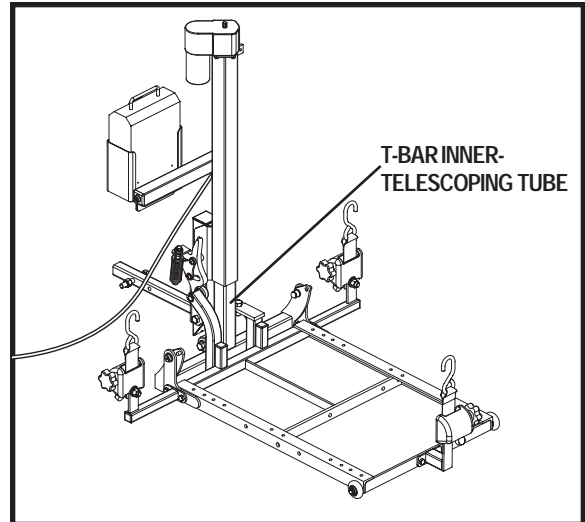

Figure 13. Lift Frame Maintenance
- Lower the platform to the ground, clean away any remnants of old grease from the T-bar inner-telescoping tube, and apply a new coat of all-weather lithium grease to the inner-telescoping tube. See figure 13.